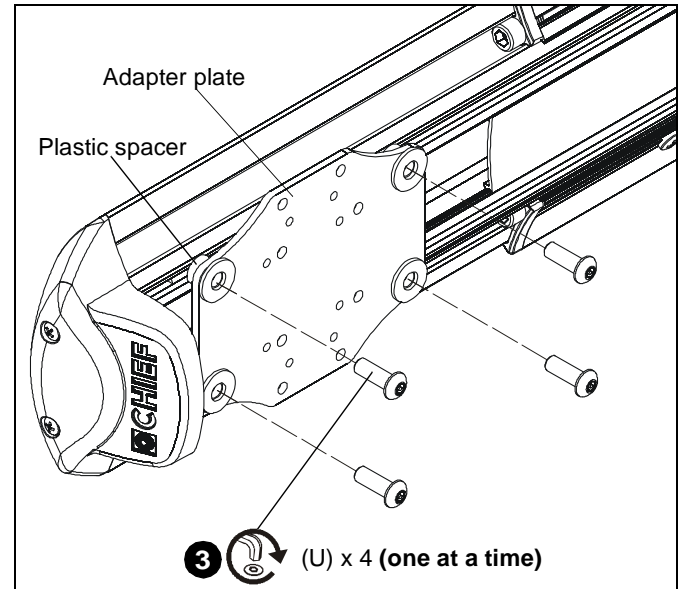

Figure 73
3. Install one 1/4-20 x 3/4" button head security screw (U) into hole (vacated by removed bolt in previous step) and into plastic spacer. (See Figure 73)